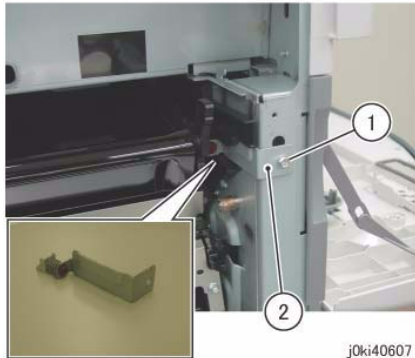

Figure 4 Remove the Front Lock Bracket
10. Remove the Front Lock Bracket. (Figure 4)